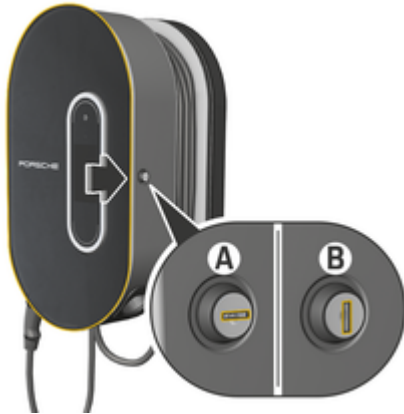

Fig. 18: Charging dock
- ▶ Turn the lock to position **A** (Fig. 18).
- ▶ Turn the lock to position **B** (Fig. 18).